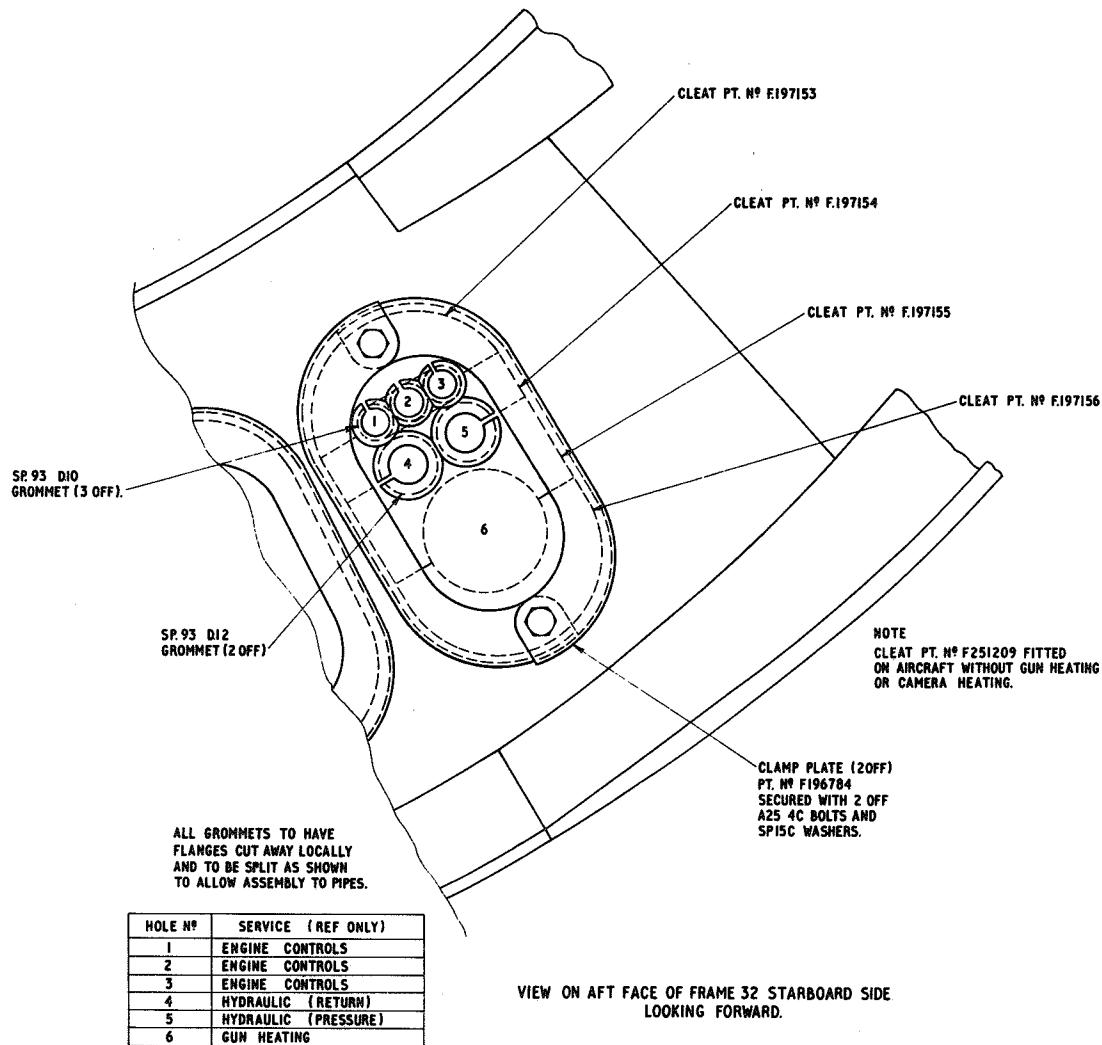

Fig.6A Assembly of clamp plates and cleats frame 32 (STI/Hunter/395)
(1) If a new engine is being installed as a result of compressor failure, or engine seizure, the pipe lines of the cabin pressurization system and the air pipes of the fuel system, *must* be examined to ensure that they are free from foreign matter.
(2) The accessories gearbox drive shaft universal couplings must be lubricated in accordance with the instructions given in para. 12 before the engine is installed.
(3) When checking the security of the accessories gearbox drive coupling, ensure that the locking sleeve teeth are in positive engagement with those of the coupling locknut.
◀ (4) Before engine installation, examine the pipes and clamp assembly located at the starboard lower aft face of frame 32 (fig.6A) for signs of pipe chafing, possibly caused by deterioration of the grommets or fracture of the pipe cleats. Renew any unserviceable pipes, cracked cleats or deteriorated grommets. Replacement grommets are to be Part No.SP 93, as specified in fig.6A, prepared by cutting away the flanges locally and splitting (as shown). After reassembling the grommets and cleats, check that adequate clearance exists between the pipes and controls (STI/Hunter/395 refers). ▶